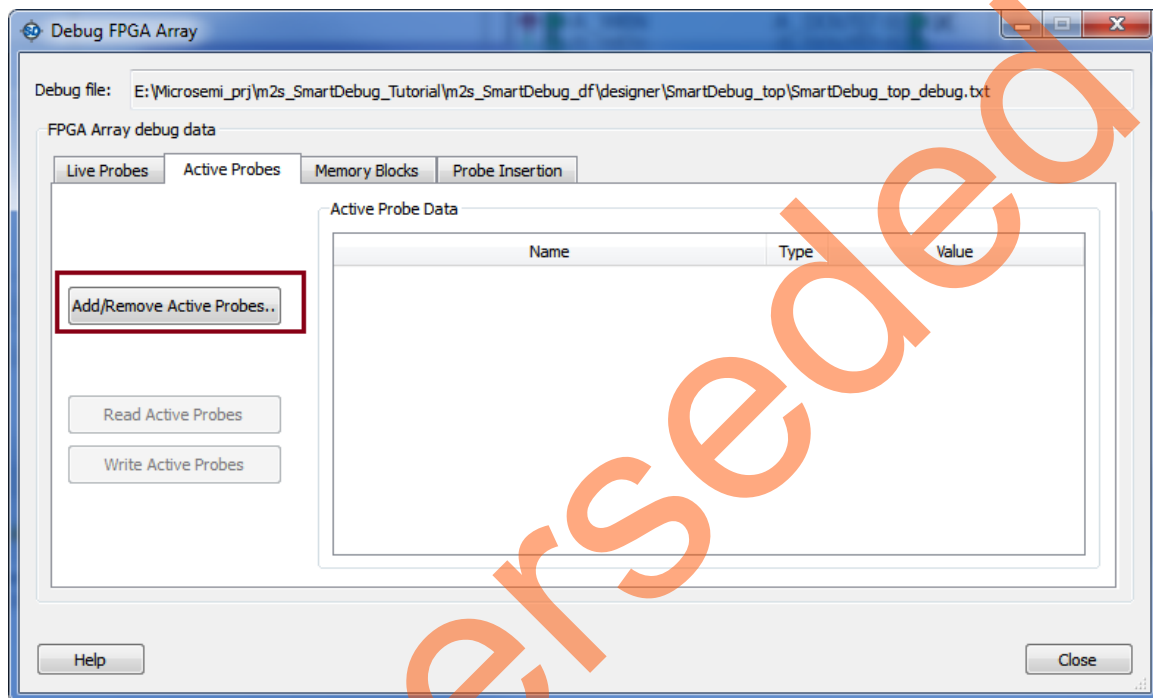

Figure 18 • Selecting Active Probes From the Design
2. Click **Add/Remove Active Probes** to select the internal points to monitor, as shown in Figure 18.